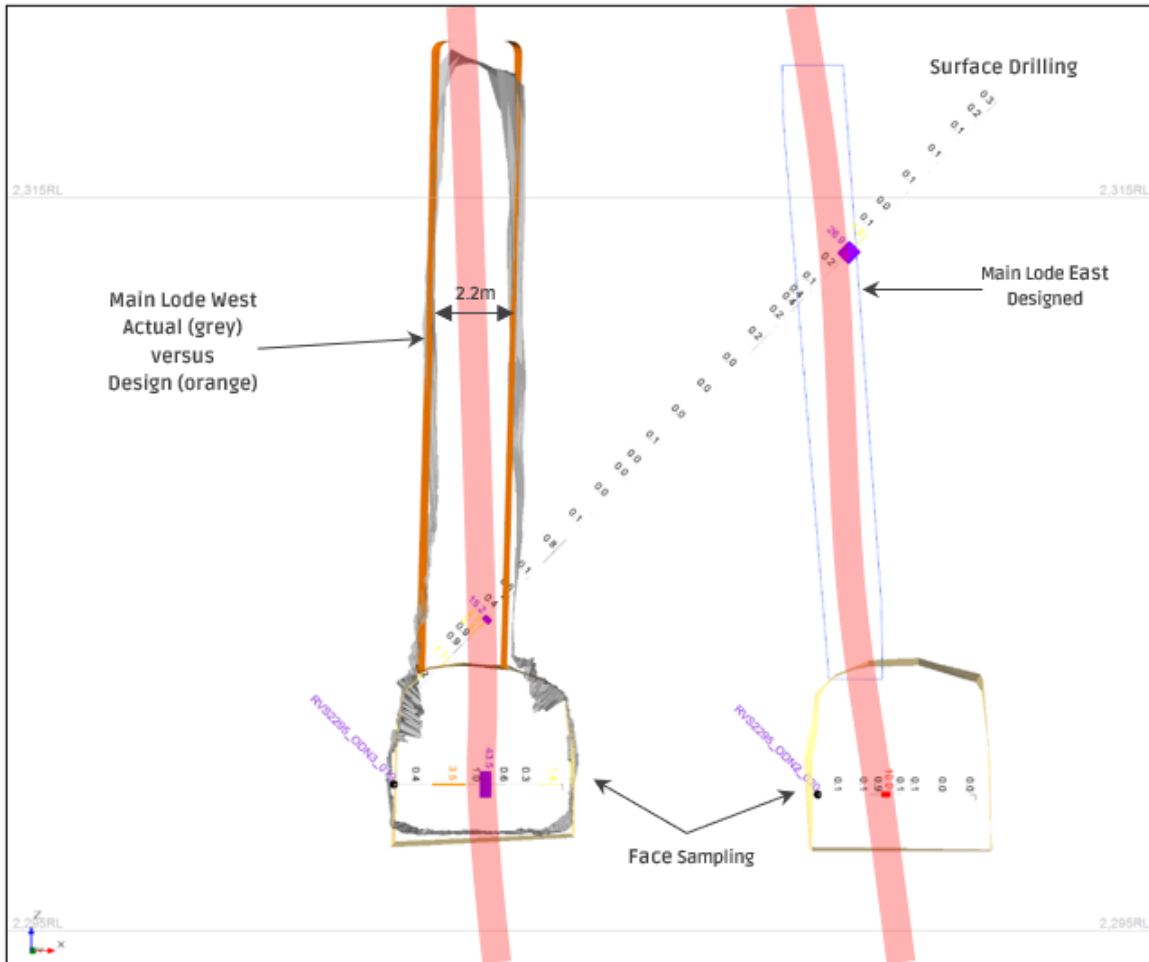

Figure 4 – Cross Section looking north – Design versus actual of first stope on the 2295 Level
- Stoping performing in line with expectations with a mining width of 2.2m (see Figure 4) and ground conditions excellent with minimal dilution of 7%